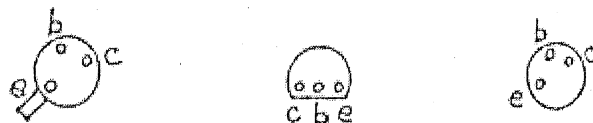

FIGURE 7-3
2. Next, determine which type of L.E.D's you have from Fig. 7-1, then solder the 5 Anodes together as shown in figure 7-3 (page 48) then use a long RED wire (approx: 18") to connect these anodes to the +5 volt terminal on the top of the box marked +5 (see page 36).
8. Using the labeling on the PC board, locate all cables for this circuit : T1 –T5 and LD1 – LD5, connect the wires to their respective points on the top of the digital trainer (Figure 4-5, page 36 and Figure 7-3 & 7-4, page 48). Ask the technician for assistance if needed.